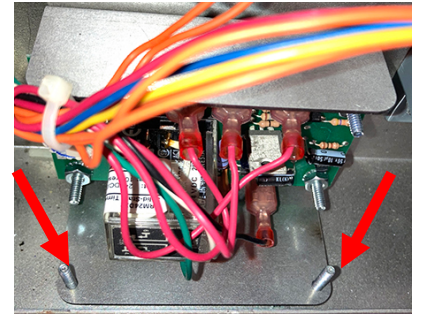

Figure 19
20. Slide the bracket with the mounted board onto the two remaining studs from step 17 (see Figure 19). It may be necessary to relocate wires. Ensure the bracket doesn't pinch any wire harnesses.